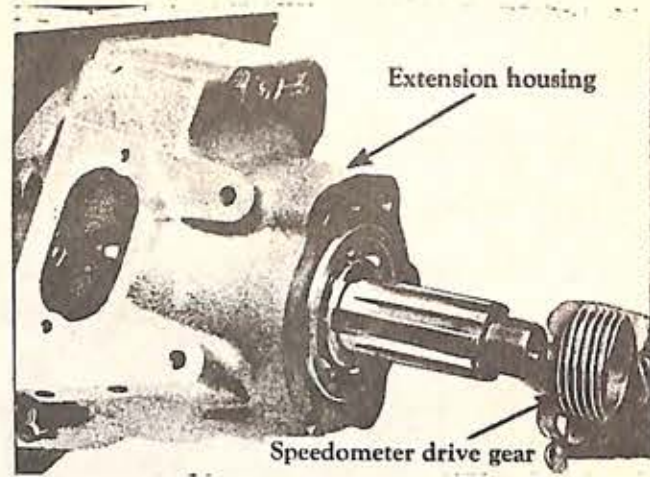

Fig. 40
4. Remove the speedometer drive gear (Fig. 40).